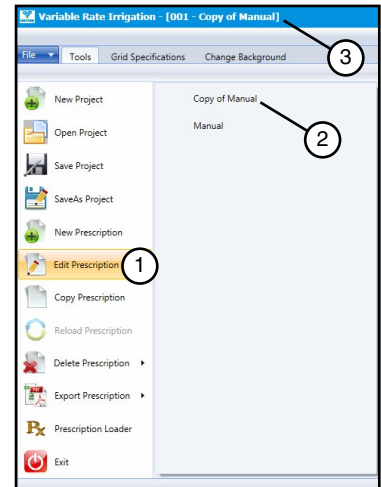

Figure 31-1 1. Edit Prescription
1. Select **Edit Prescription** in the VRI drop-down menu. See Figure 31-1.
2. Select the name of the prescription in the right column. See Figure 31-1.
3. Once you have selected a prescription it will load. Check the name in the top menu bar to confirm the selected prescription has loaded. See Figure 31-1.